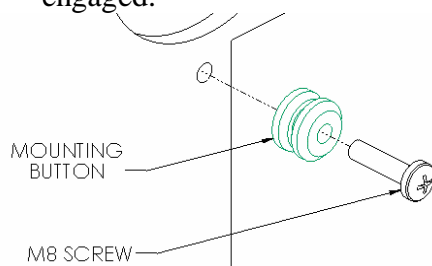
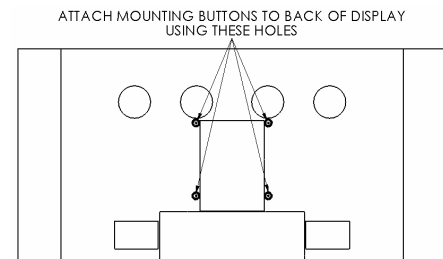

Figure 2
Figure 3
1. If applicable, remove rubber caps over mounting holes before attempting to attach buttons using four M8 screws provided (see Figure 2 & Figure 3).
2. Attach mounting buttons to display using correct length screws depending on screen (see Figure 2 & Figure 3).